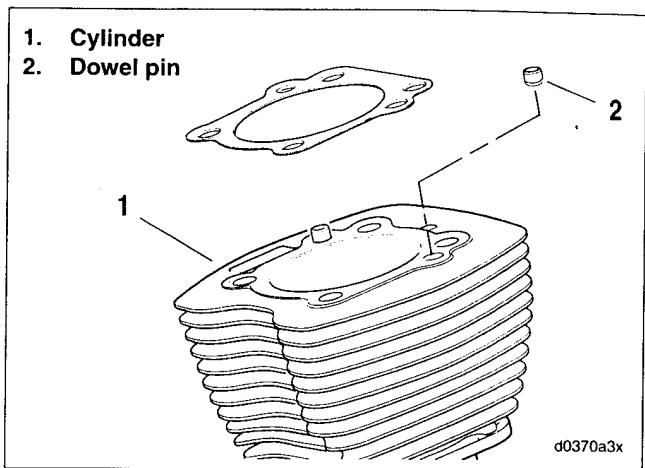

Figure 3-38. Cylinder Dowel Pins
1. See Figure 3-38. With the part number topside, place the head gasket over the two dowel pins in the upper flange of the cylinder.